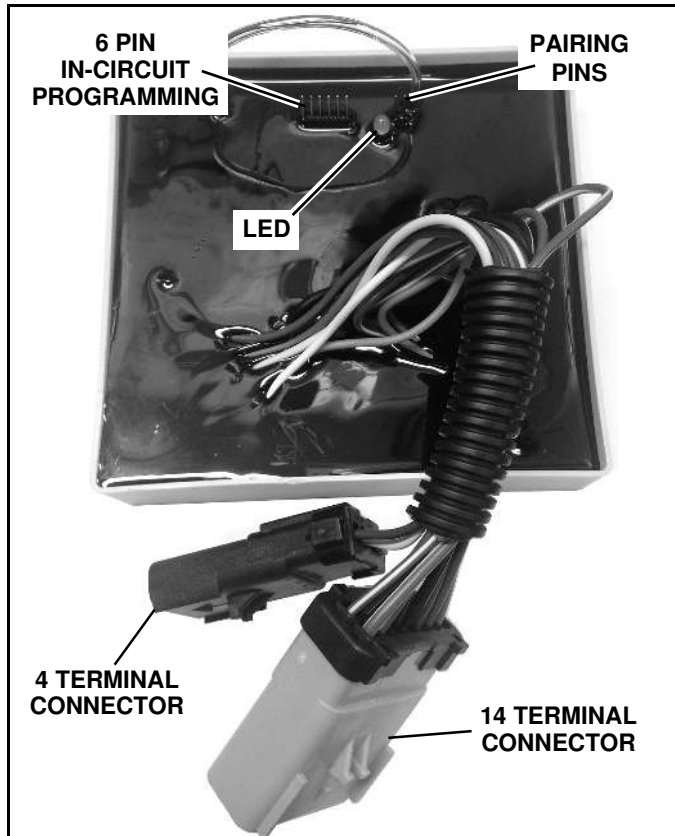
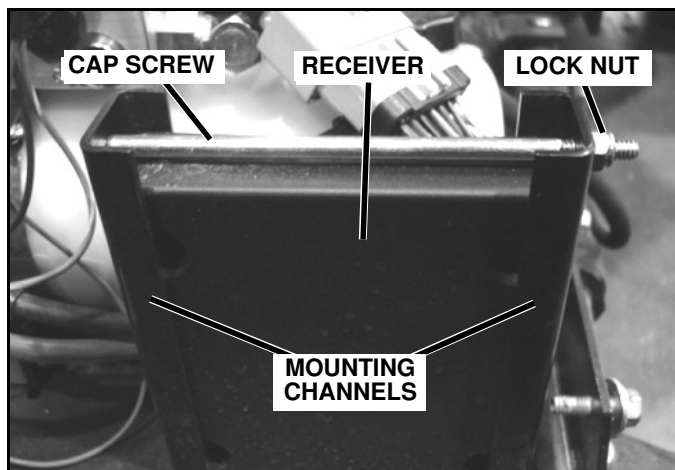

Figure 1-1
Figure 1-2
3. With the 6-pin in-circuit programming pins positioned on the top of the unit (See Figure 1-1), slide the receiver module into the receiver mounting channel with the exposed wires of the receiver box positioned toward the hydraulic reservoir (See Figure 1-2).
3. Place a metal object across the 2 pairing pins on the receiver module. (See Figure 1-1). Remove the object and the LED on the receiver will alternately flash green and red to indicate the receiver is in pairing mode.